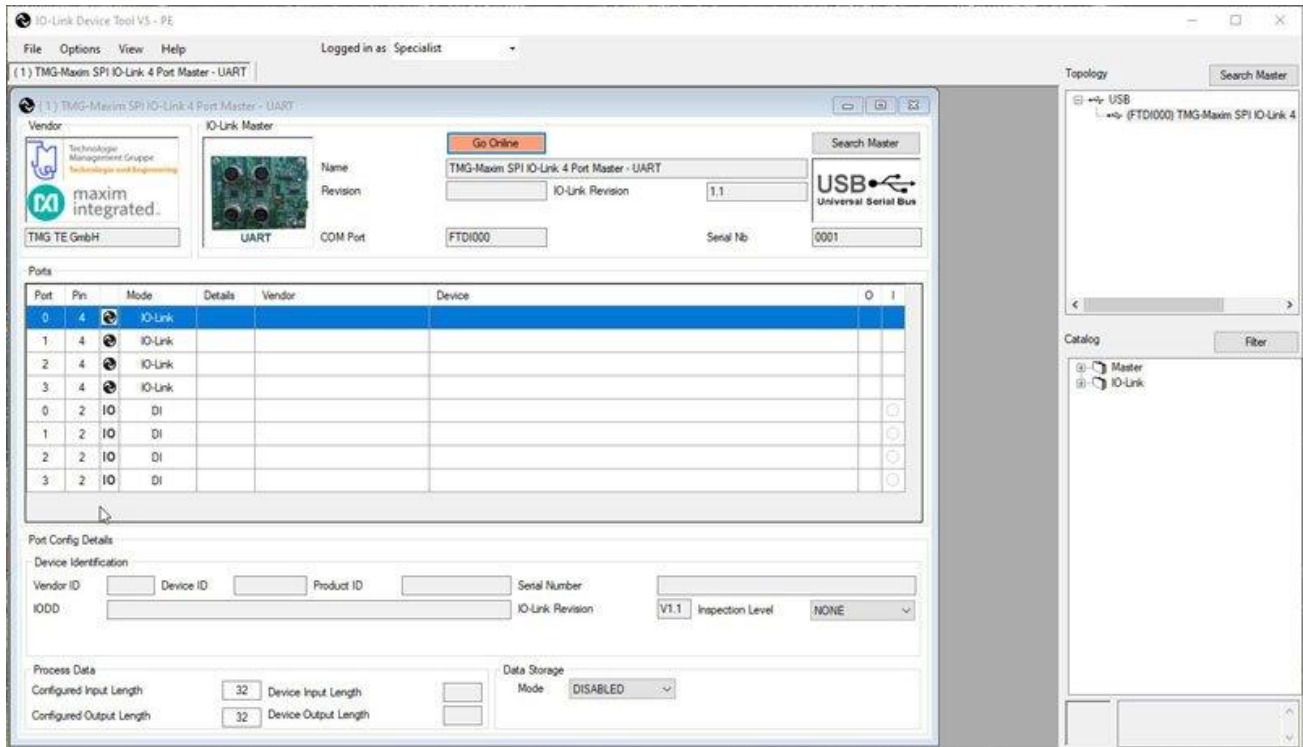

Figure 4. The TMG TE IO-Link device tool.
The TMG TE IO-Link Device Tool software is shown in **Figure 4**. A complete guide is also downloadable from the TMG TE website.
Download the IODD file (*.xml) located in the Design Resources tab. Follow the step-by-step instructions in the Quick Start Guide section to use the software. **Figure 4** is a screenshot of the TMG TE IO-Link Device Tool communicating with the master and sensor.
3. Open the IO-Link Device Tool software and click **Search Master (Figure 4)**. Select the 4-port master (MAXREFDES165#) found by the tool.
5. Click **Go Online** (Figure 4).